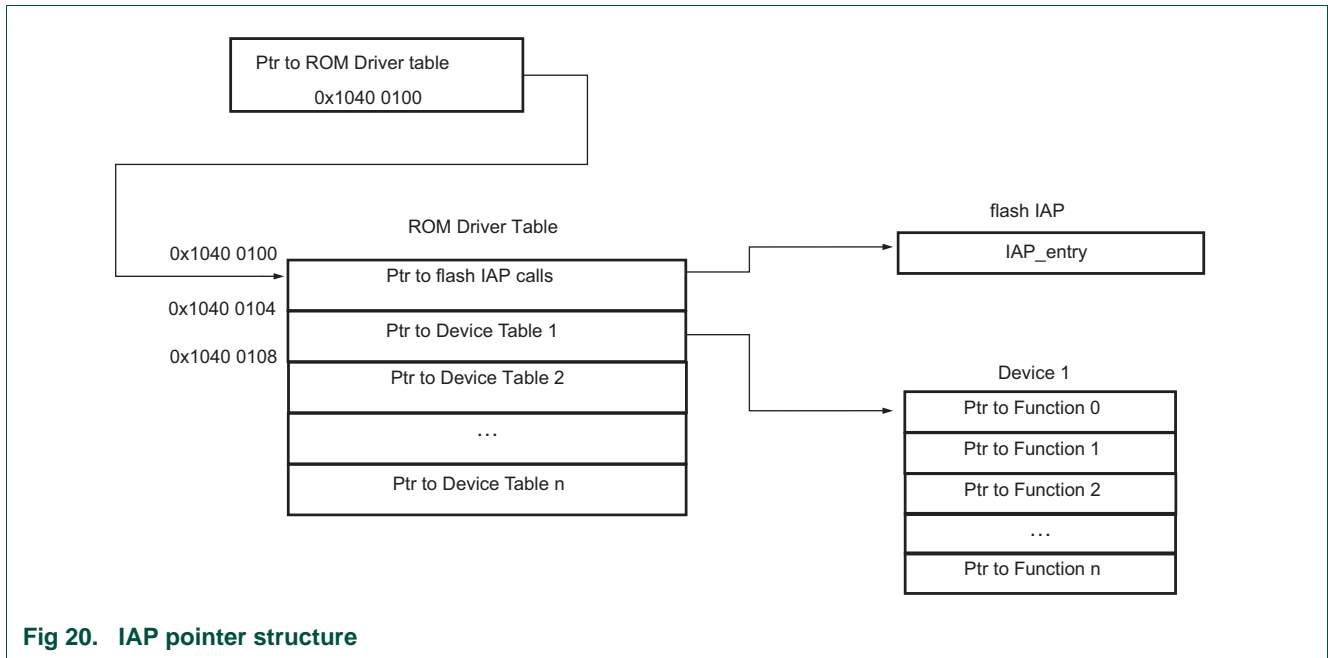

Fig 20. IAP pointer structure
1. Extract the IAP invoke call (iap\_entry) entry pointer. The IAP invoke call is located in the IAP jump table which is pointed to by the ROM driver table at address 0x10400100 + 0x000. See Figure 20.